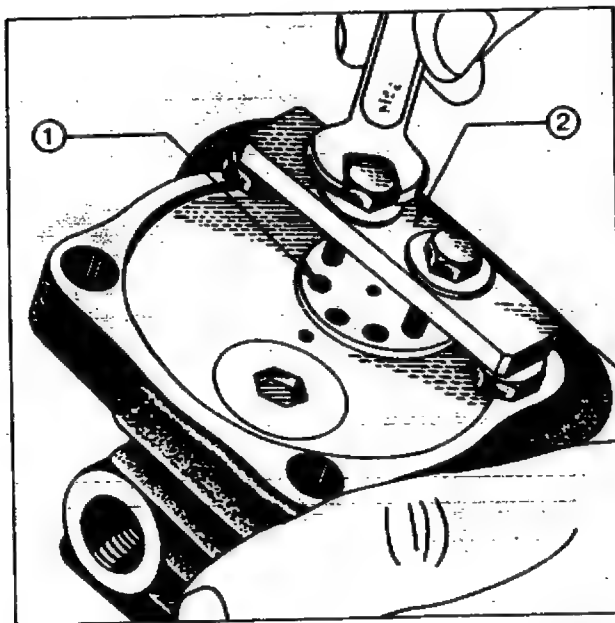
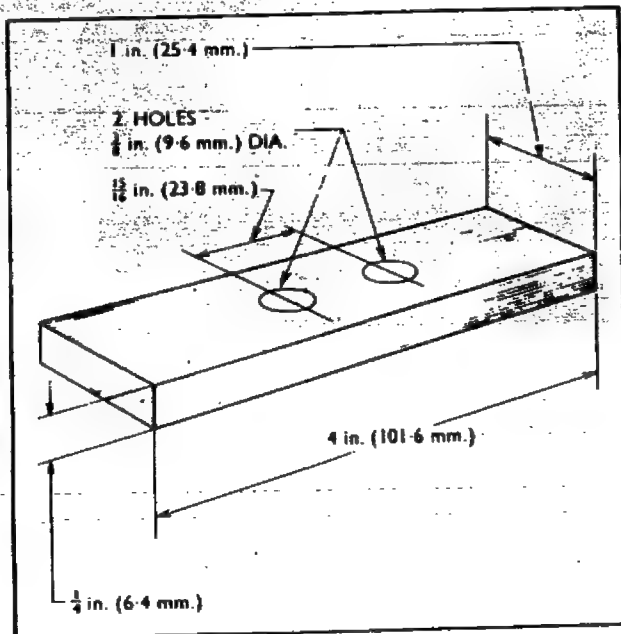

Fig. 7
Fig. 8
- (d) Invert the cylinder head assembly and withdraw the inlet valve guide (see Fig. 7), using a simple extractor made from two $\frac{1}{4}$ UNF bolts 25 mm (1.0 in) long, and a metal plate as shown in Fig. 8.